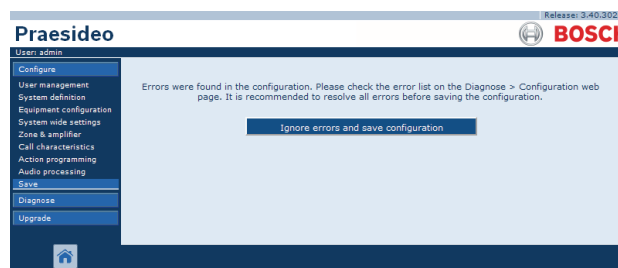

figure 41.6: Ignore errors and save configuration window
- When there are issues found, a message is displayed indicating there are configuration issues to be resolved first. Still it is possible to ignore the errors and save the configuration anyway to continue the configuration at a later time. Only one button is displayed: *Ignore errors and save configuration*. See figure 41.6.